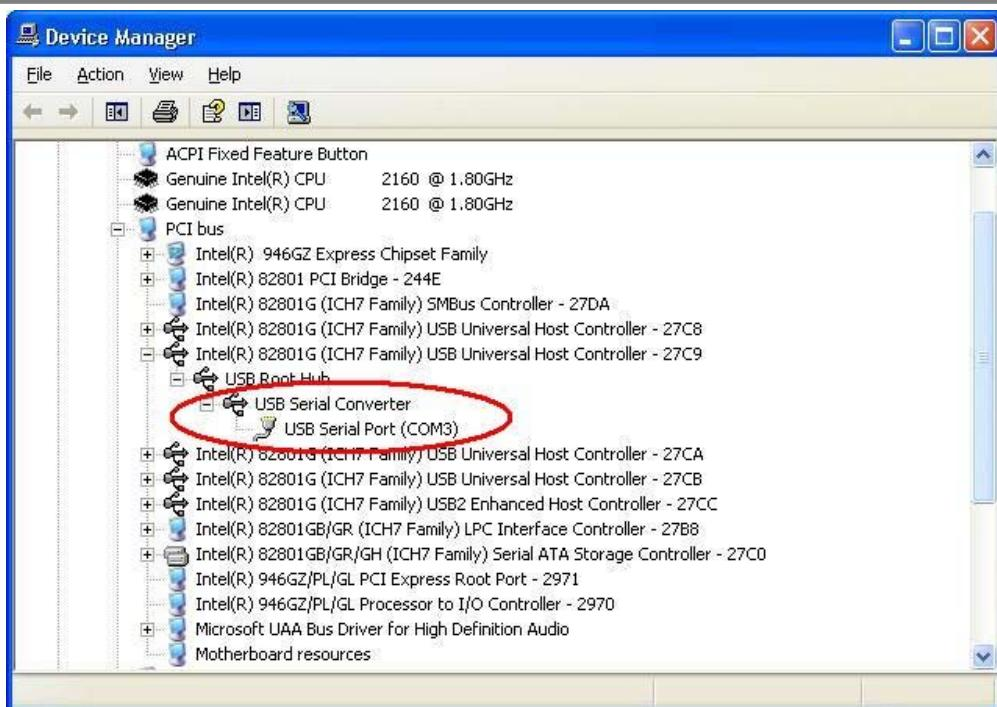

Figure 2.10
- Open the Device Manager (located in "Control Panel\System" then select the "Hardware" tab and click "Device Manager") and select "View > Devices by Connection", the device appears as a "USB Serial Converter" with an additional COM port with the label "USB Serial Port" (Figure 2.10). If the device is based on the FT2232, two ports will be available from a composite USB device.